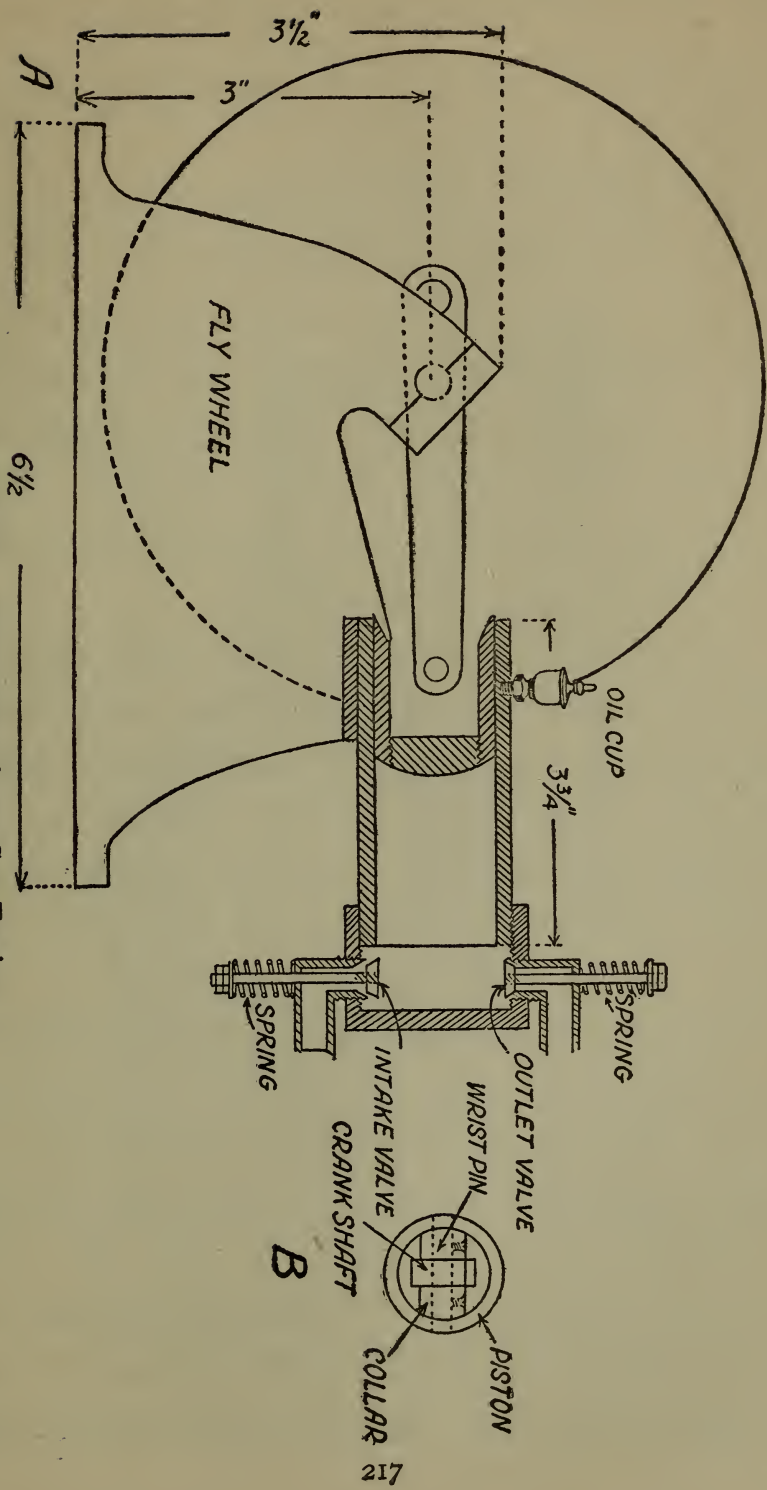

Fig. 71. Side View of the Gas Engine
*The Cylinder.*—This can be made of an iron pipe but it must be bored out true and smooth. Give it an inside diameter of 1 inch, make it  $2\frac{3}{4}$  inches long and thread one end of it as shown in Fig 71.
Thread one of the ends on the outside and then ream it out to form a beveled edge as shown in Figs. 71 and 72, to form a seat, as it is called. Drill a  $\frac{1}{16}$ -inch hole through the elbow for the *valve stem* so that it will be exactly in the center of the end of the elbow that is beveled out.
The piston should be made of iron and carefully fitted to the inside of the cylinder; it is 1 inch in diameter and  $1\frac{3}{8}$  inches long. Make it of a piece of iron pipe  $1\frac{5}{16}$  inches long and it ought to be turned down to make a good fit; thread the inside of one end and bevel the inside of the other end to allow room for the connecting rod. Make a screw plug  $\frac{5}{16}$  inch thick and thread it to fit the pipe and then round off the end as shown in Fig. 71.
end and taper it down to  $\frac{3}{8}$  inch wide on the other end; let it be  $3\frac{5}{8}$  inches long and round off both ends as is also shown in Fig. 71.
*Assembling the Crankshaft.*—The crankshaft can be completely assembled and the connecting rod coupled to it before it is mounted in the journal-bearing as the latter is *halved*, that is cut in two as shown in Fig. 71.
gine ought, by all means, to be a cast one. To make a pattern for the bed measure up the side, top and end elevations shown in Figs. 71, 74 and 78 and then by looking at the picture of the com-